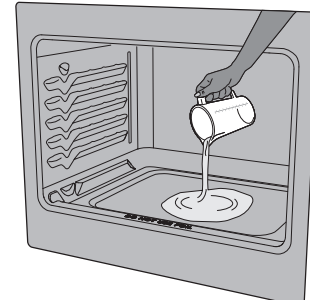

Figure 12: Add 1 cup of tap water
5. Pour 1 cup of tap water onto the oven bottom (Figure 12). Close oven door.